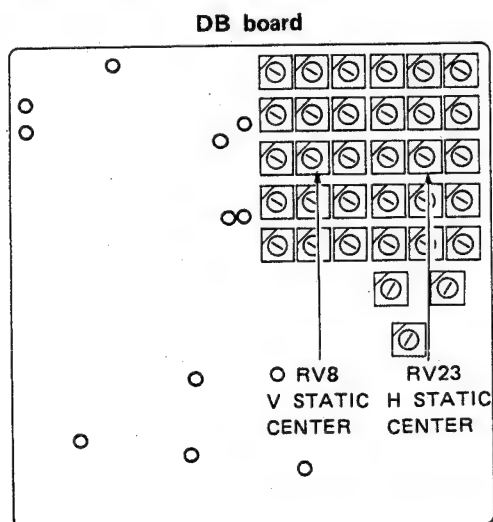

Fig. 1-6.
3. Set the H. STATIC CENTER control (RV23) and V. STATIC CENTER control (RV8) on the DC board to mechanical center as shown in Fig. 1-6.